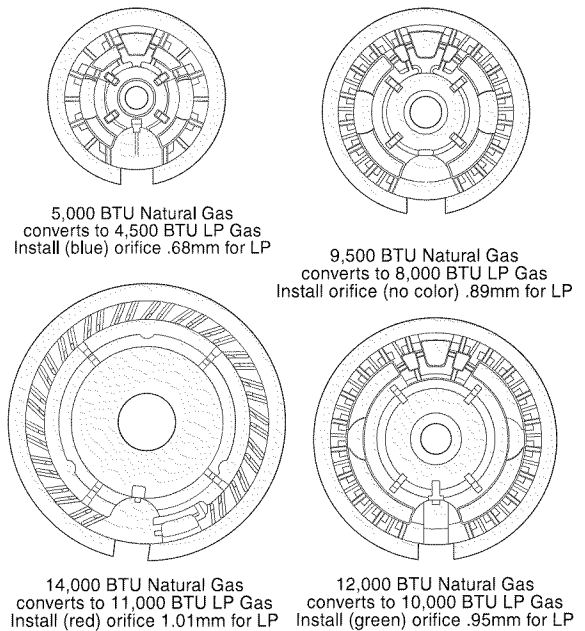

FIGURE 4
- Replace the orifice in each of the four orifice holders with the correct LP/Propane gas orifice (refer to the LP Kit chart listed on page 1; also refer to Figures 4 and 5 for the correct LP orifice installation at each of the four surface burner locations). Tighten each orifice until snug. Use caution not to overtighten.
- Remove the four LP orifices using 7mm nutdriver and replace with the four original factory installed natural gas orifices at their original locations (See figure 4 for locations).